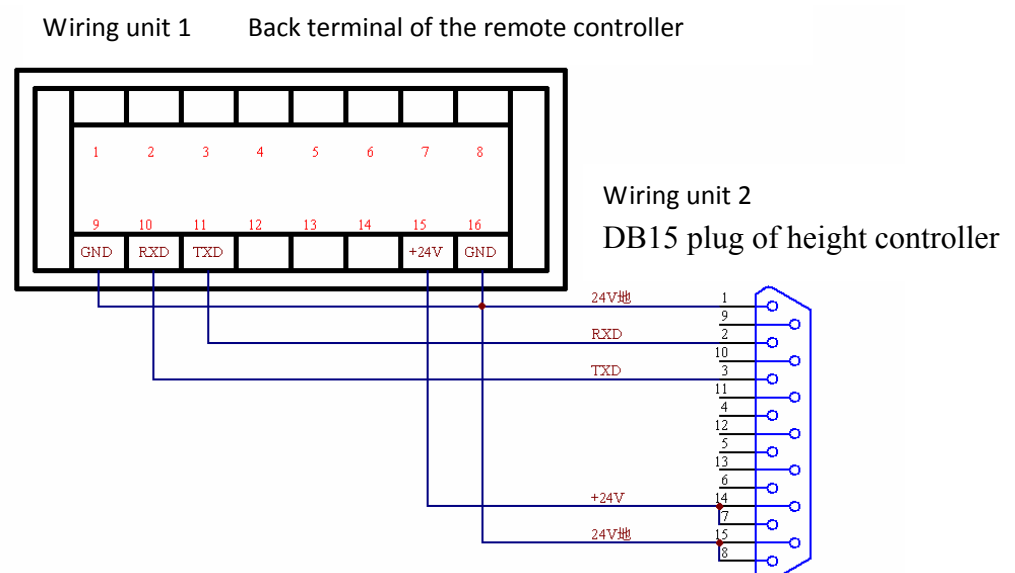

Figure X-3 Wiring diagram of height remote controller
- Wiring diagram is shown in Figure X-3.